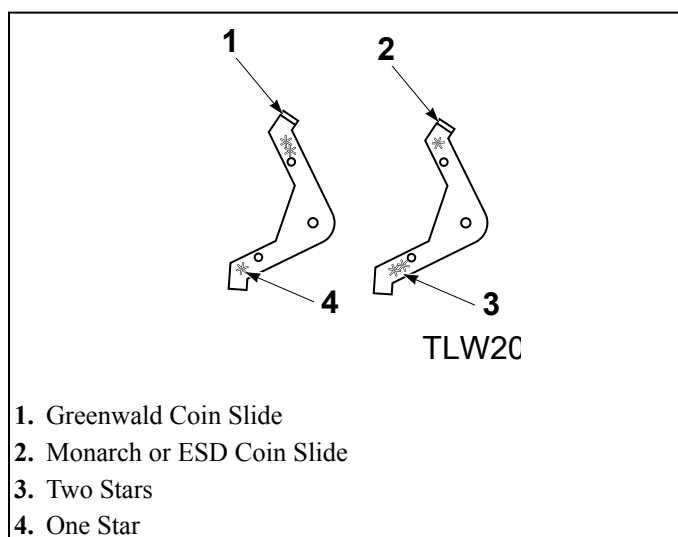

Figure 35
2. If installing a Greenwald coin slide, position extension lever (to be installed on extension bracket) with arm that has one star facing down. If installing a Monarch or ESD coin slide, position lever with arm that has two stars facing down. Refer to *Figure 35*.